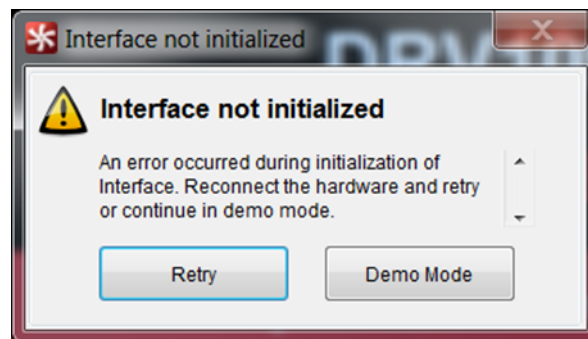

Figure 9. Initial GUI Screen
- If no hardware is connected, or if a hardware connection problem occurs, the GUI displays the error message as shown in Figure 9. Confirm the hardware connection. Retry the initialization or click the *Demo Mode* button to operate in demo mode.